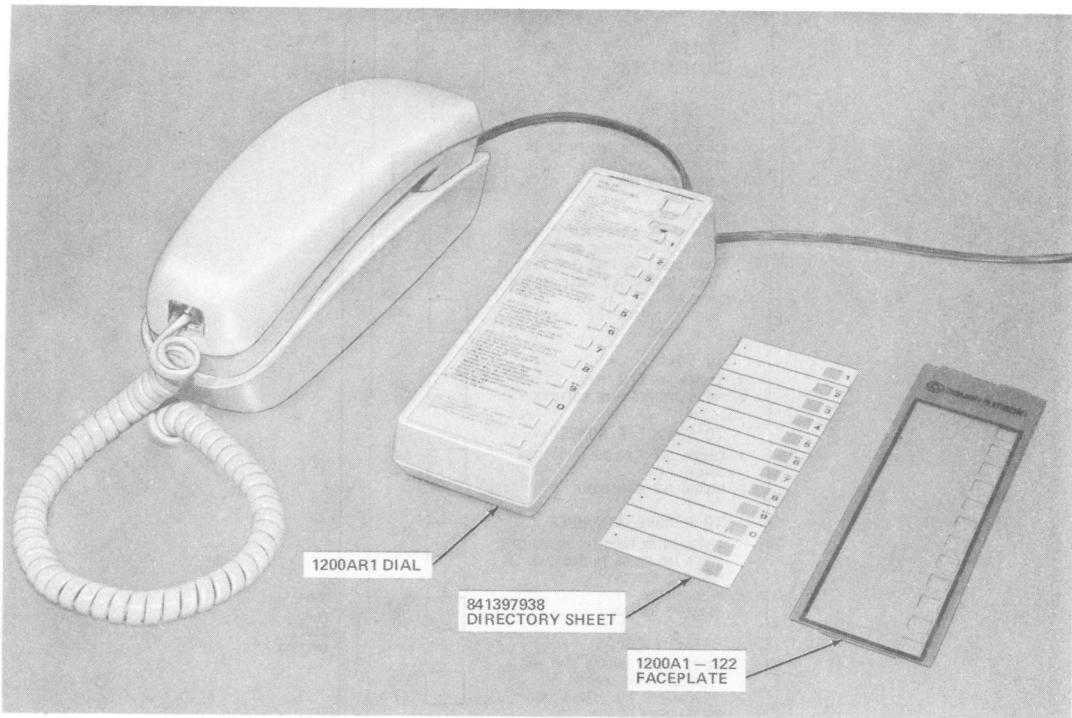

Fig. 4—1200AR1 Dial With Faceplate and Directory Sheet Removed
- (1) Remove the adjunct dial faceplate (Fig. 4), using fingernail in slot at top.
- (2) Remove the directory sheet and write or type the desired name(s) and telephone number(s). Replace the directory sheet on the dial.